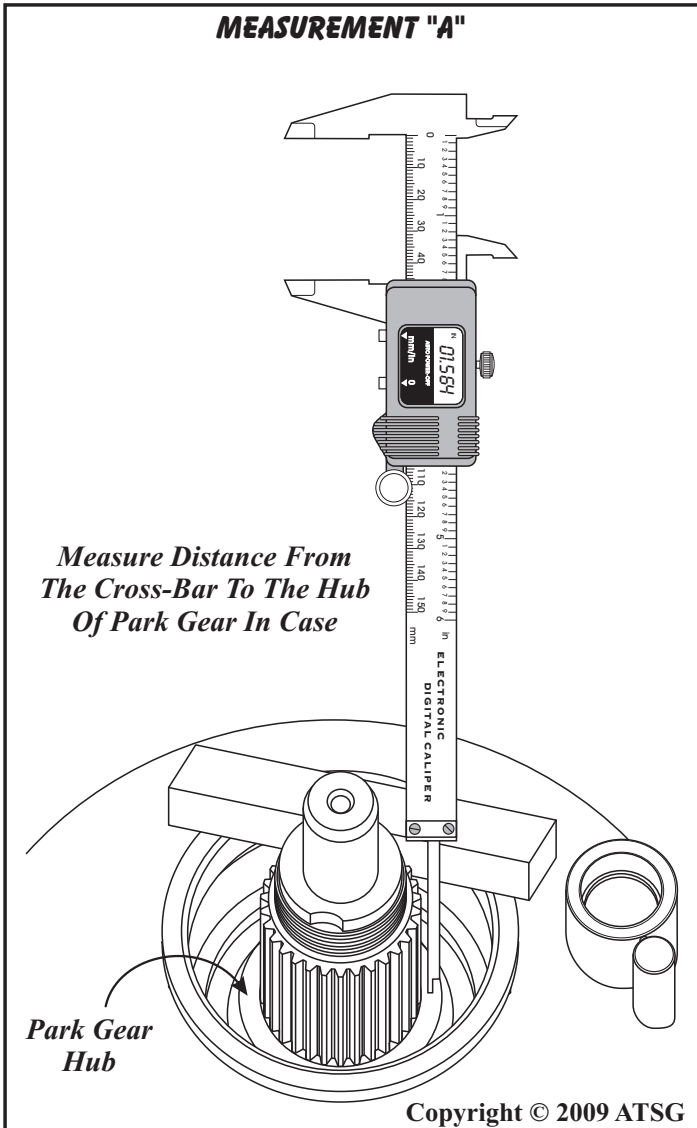

Figure 187
22. Rotate transmission in fixture so output shaft is facing up, as shown in Figure 187, and ensure transmission is *not* in the Park position and no shims installed.
23. Using a cross-bar and dial caliper, measure from the cross-bar to the surface of the hub on parking gear, as shown in Figure 187, and record this as Measurement "A".